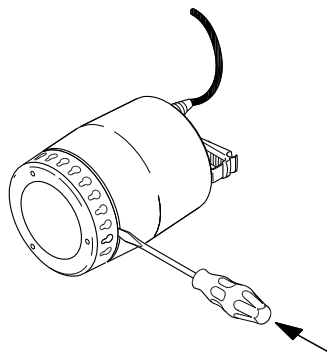

Fig. 7
3. Carefully loosen the suction strainer by inserting a screwdriver in the recess between the outer casing and the strainer and pressing it hard. Repeat the procedure until the strainer is free and can be removed, see fig. 7.